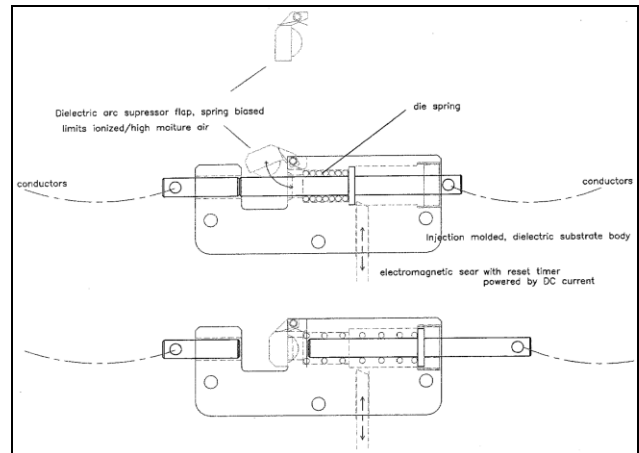

Figure 4. Anti-arc breaker with manual reset concept.
- a. Design and fabricate an anti-arc breaker with dielectric flap and incorporate an integral electromagnetic sear (part of a triggering provision which holds back a striker until a threshold of pressure is applied to trigger release or disengagement) Note: the sear component in the breaker sketch (see Fig. 4).